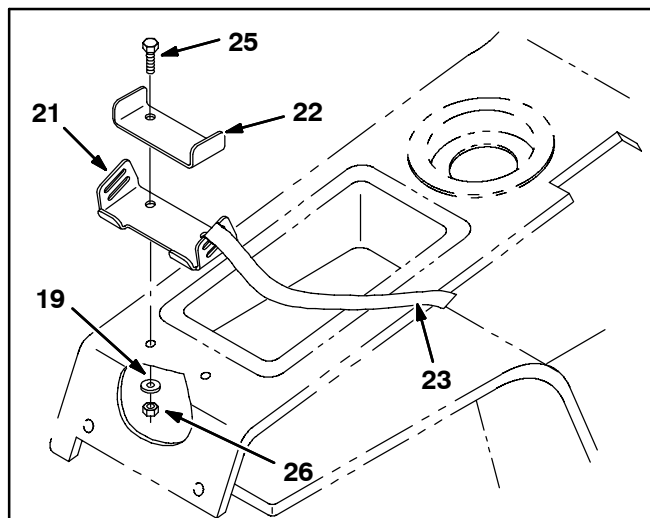

FIG. 4
2. Use two hex nuts (26), two washers (19), and two hex screws (25) to install the bent plate (22), wand bracket (23), and wand strap (21) onto the right side panel. Hand tighten hardware. Refer to Fig. 4.
3. Remove the two plastic plugs from the right side panel and use hex screw (25), hex screw (24), three washers (8), and a hex nut (20) to install the upper wand tube (15) and flat plate (16) onto the right side panel. Refer to Fig. 4.